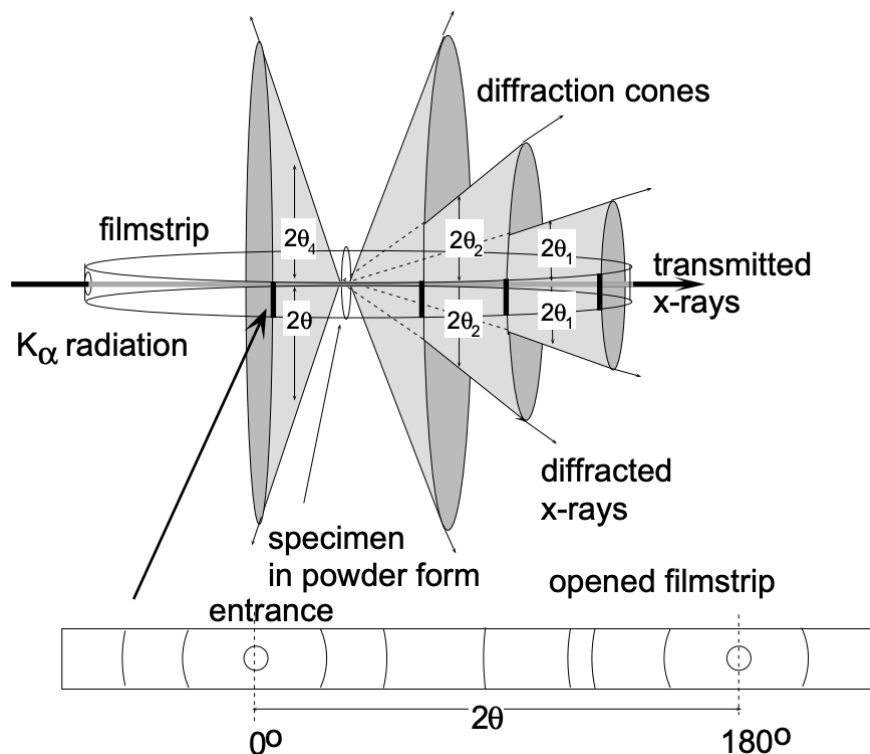

Figure 12 Debye-Scherrer powder diffraction setup and analysis
In the **Debye-Scherrer method** (fig.12) the sample is ground to a powder and placed (in an ampoule) into the center of a Debye-Scherrer camera. Exposed to monochromatic X-rays, in this way a large number of diffracted cone-shaped beams are generated
In a Debye-Scherrer arrangement, after exposing a powder of a crystalline material to monochromatic X-rays, the developed film strip will exhibit diffraction patterns such as indicated in fig. 12. Each diffraction peak (dark line) on the film strip corresponds to constructive interference at planes of a particular interplanar spacing $[d_{(hkl)}]$. The problem now consists of "indexing" the individual lines - i.e., determining the Miller indices (hkl) for the diffraction lines:
Indexing in step-by-step sequence is thus performed as follows: θ values of the lines are obtained from the geometric relationship of the unrolled film strip. Between the exit hole of the X-ray beam ($2\theta = 0^\circ$) and the entrance hole ($2\theta = 180^\circ$) the angular relationship is linear (fig. 12). The increasing θ values for successive lines are indexed $\theta_1, \theta_2, \theta_3$, etc., and $\sin^2 \theta$ is determined for each. If the system is simple cubic we know that all planes present will lead to diffraction and the successive lines (increasing θ) result from diffraction on planes with decreasing interplanar spacing: (100), (110), (111), (200), (210), (211), (220), etc. From equation (3) above we recognize: